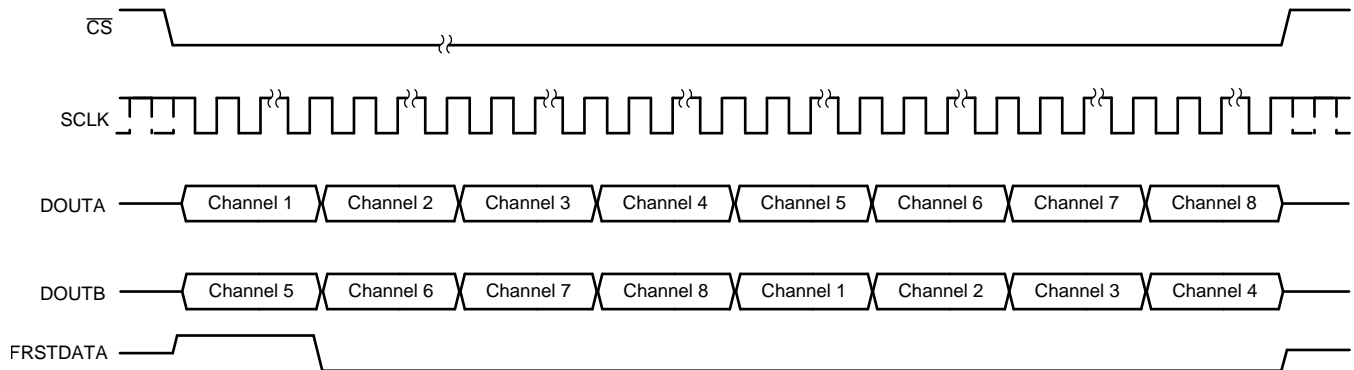

图 69. Data Read Back in the Serial Interface Using Either DOUTA or DOUTB Timing Diagram
disadvantage of using just one data line for reading conversion data is that the throughput is reduced if a data read operation is performed after conversion. 图 69 shows this operation.
- Alternatively, only DOUTB can be used for reading the conversion data from all channels. In this case, everything else remains the same and the output bit stream contains data for all channels in the following order: channels 5, 6, 7, 8, 1, 2, 3, and 4. 图 69 shows this operation.